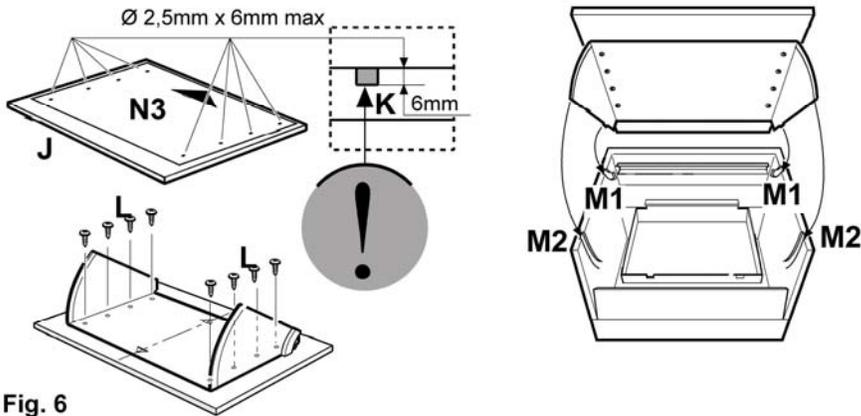

Fig. 6
- b. Put perforation diagram **N3** on the REAR of aesthetic panel **J** (the arrow on the diagram turned upward towards the UPPER EDGE of the aesthetic panel). **Fig. 6**
- c. Make BLIND HOLES **K** as indicated. **Fig. 6**
- d. Put the steam collector over the aesthetic panel and fix it with 8 screws **L**. **Fig. 6**
- e. Remount the door on the hood, first on upper guides **M1**, then on the lower **M2**. **Fig. 6**